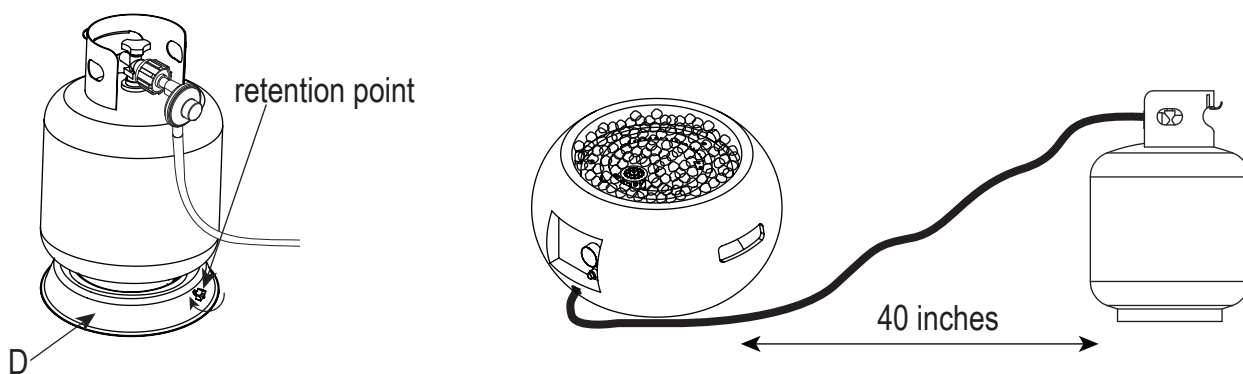

Figure 4
4. Secure the cylinder by tightening clockwise the retention point found on the tank seat (D) (see Figure 4), so that the cylinder cannot move from side to side or fall down.